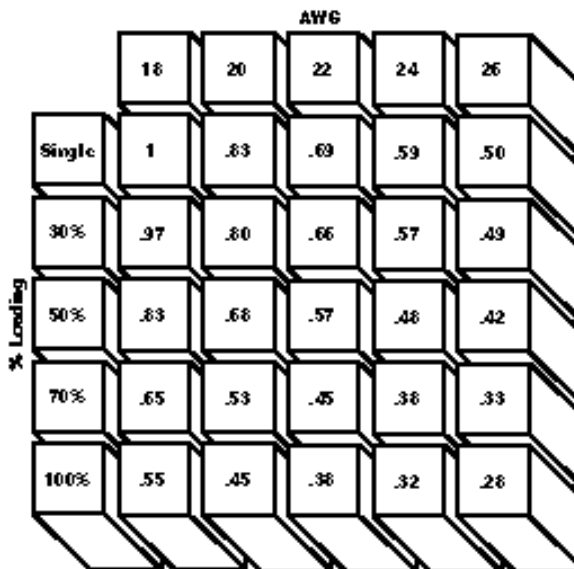

Figure 2
- Figure 2, the rating factor for 50% loading and 20 AWG [0.6mm2] wire is 0.68.